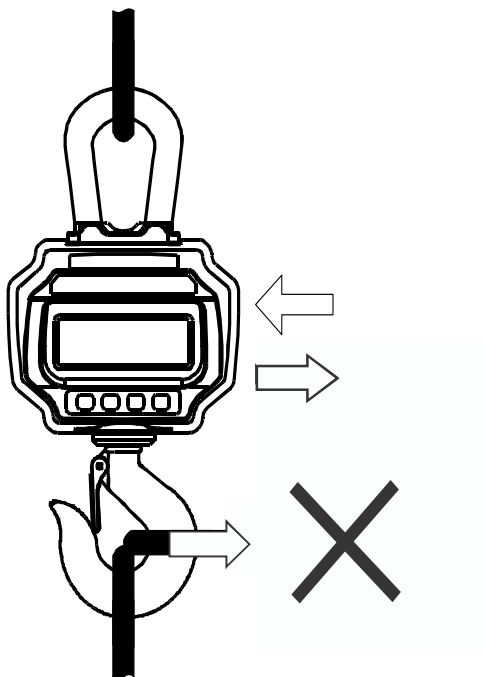

Figure 5.3 Side Stress on Hook
- 1 DO NOT push/pull on loaded scale or directly on hook! Refer to Figure 5.3